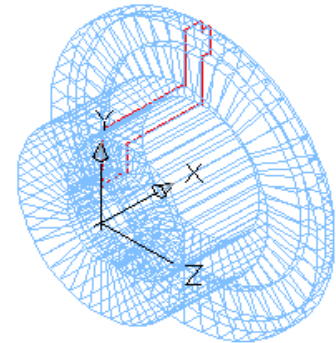

Figure Step 10
Step 10 Change the current layer to Surface and enter the REVSURF command as shown below. After you complete the command, your model should appear as shown in Figure Step 10.